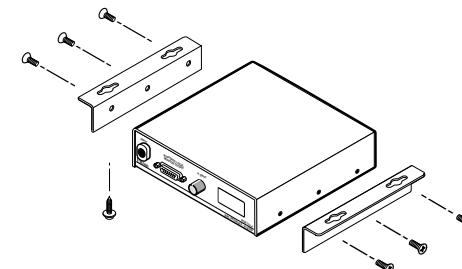

Figure 9 — Attaching the under desk brackets (part number 70-077-01)
1. Attach the mounting brackets to the interface using six machine screws supplied with the mounting kit (see figure 9).